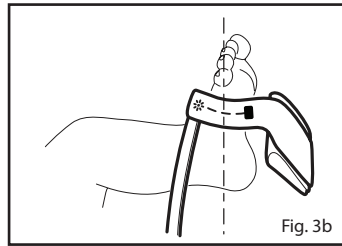

Fig. 3b
3. Refer to Fig. 3b. Direct the sensor cable toward the ankle (or wrist) so that it runs along the top of the foot (or hand). Apply the sensor around the foot (or hand) so that emitter and detector are aligned. Complete coverage of the detector window is needed to ensure accurate data.